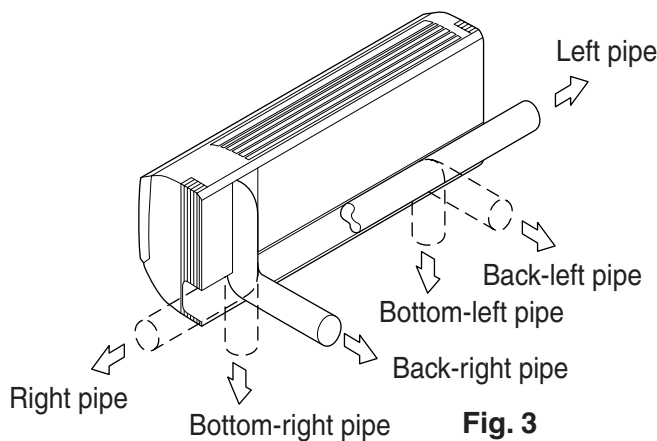

Fig. 3
- The refrigerant pipe and drain pipe can be passed out in one of 6 directions: left, bottom-left, back-left, right, bottom-right, and back-right. (Refer to Fig. 3)
- Using the paper pattern for installation (3), choose where to pass the piping out and open a through-hole ( $\phi 80$ ) in the wall. Open the hole so that there is a downward slope for the drain piping. (See "6.DRAIN PIPING WORK")